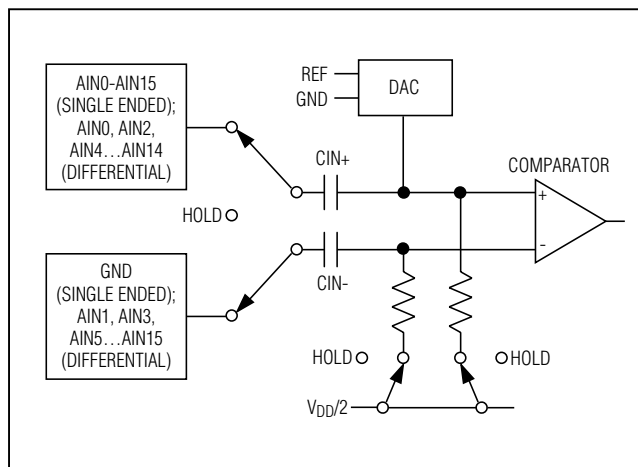

Figure 3. Equivalent Input Circuit
**Note 6:** See Figure 3 (Input Equivalent Circuit) and the *Sampling Error vs. Source Impedance* curve in the *Typical Operating Characteristics* section.
The MAX1027/MAX1029/MAX1031 use a fully differential ADC for all conversions. The analog inputs can be configured for either differential or single-ended conversions by writing to the setup register (see Table 3). Single-ended conversions are internally referenced to GND (Figure 3).
The equivalent circuit of Figure 3 shows the MAX1027/MAX1029/MAX1031's input architecture. In track mode, a positive input capacitor is connected to AIN0–AIN15 in single-ended mode (and AIN0, AIN2, AIN4...AIN14 in differential mode). A negative input capacitor is connected to GND in single-ended mode (or AIN1, AIN3, AIN5...AIN15 in differential mode). For external track-and-hold timing, use clock mode 01. After the T/H enters hold mode, the difference between the sampled positive and negative input voltages is converted. The time required for the T/H to acquire an input signal is determined by how quickly its input capacitance is charged. If the input signal's source impedance is high, the required acquisition time lengthens. The acquisition time,  $t_{\text{ACQ}}$ , is the maximum time needed for a signal to be acquired, plus the power-up time. It is calculated by the following equation: